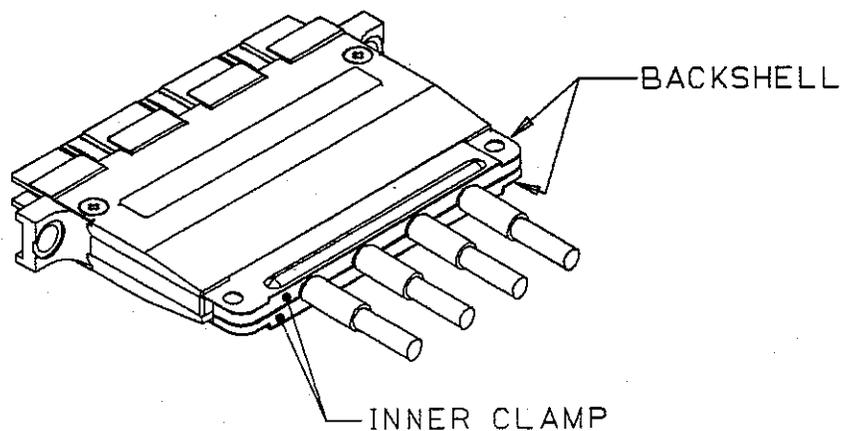

Figure 5-9. Inserting Inner Clamps Between Backshell Halves
1. Insert inner clamps between the backshell and the cables (Figure 5-9).